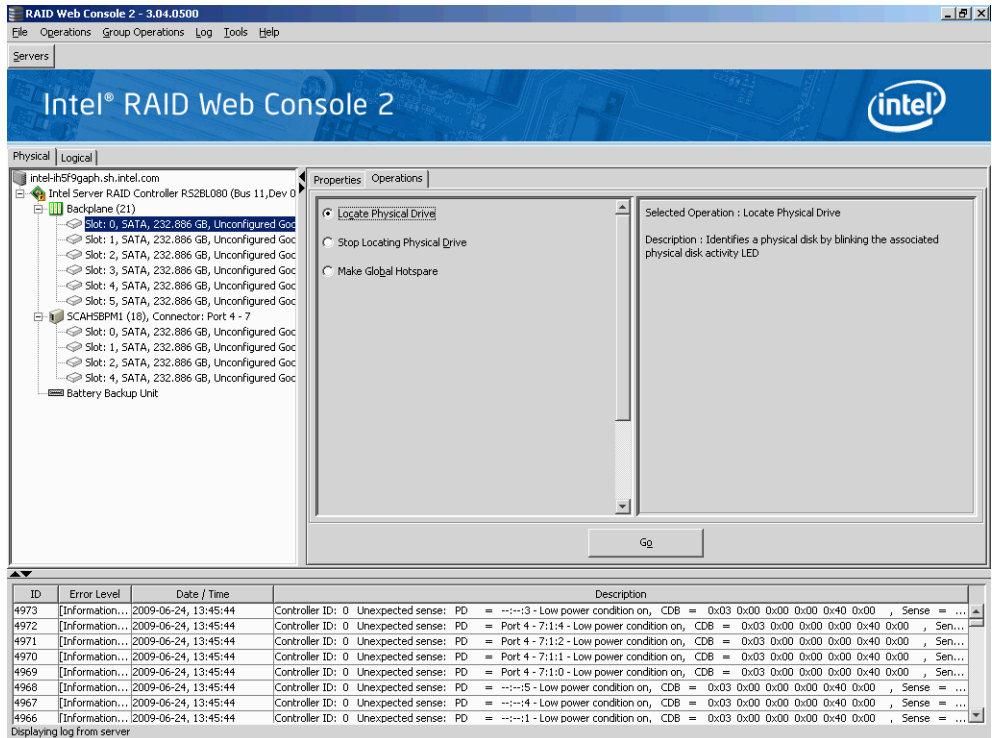

Figure 77. Locating a Physical Drive
3. Select **Locate Physical Drive** and click **Go** (see Figure 77).